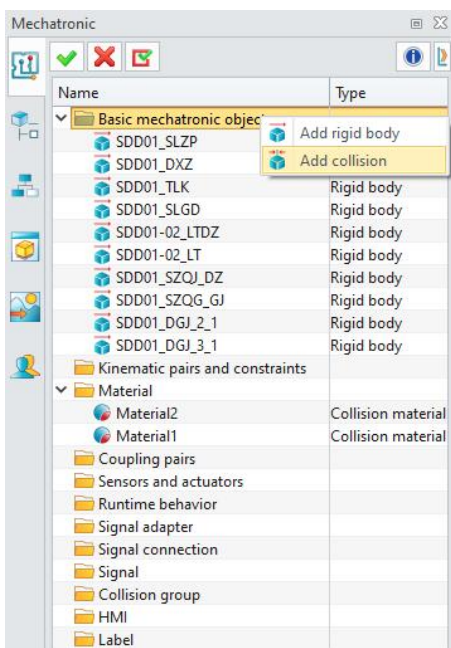

Figure 13-14: Add collision
- Open the "Basic Mechatronic Objects" window and select "Add Collision".(Figure 13-14)